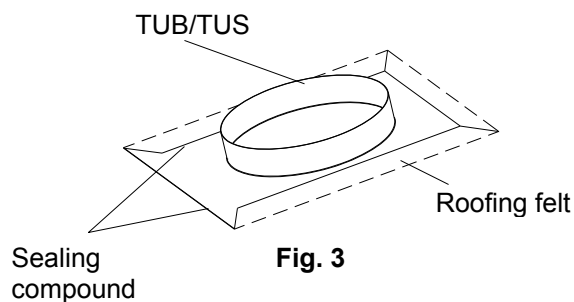

Fig. 3
4. Seal all joints at the TUB with a suitable sealing compound, fig. 3 and 5.